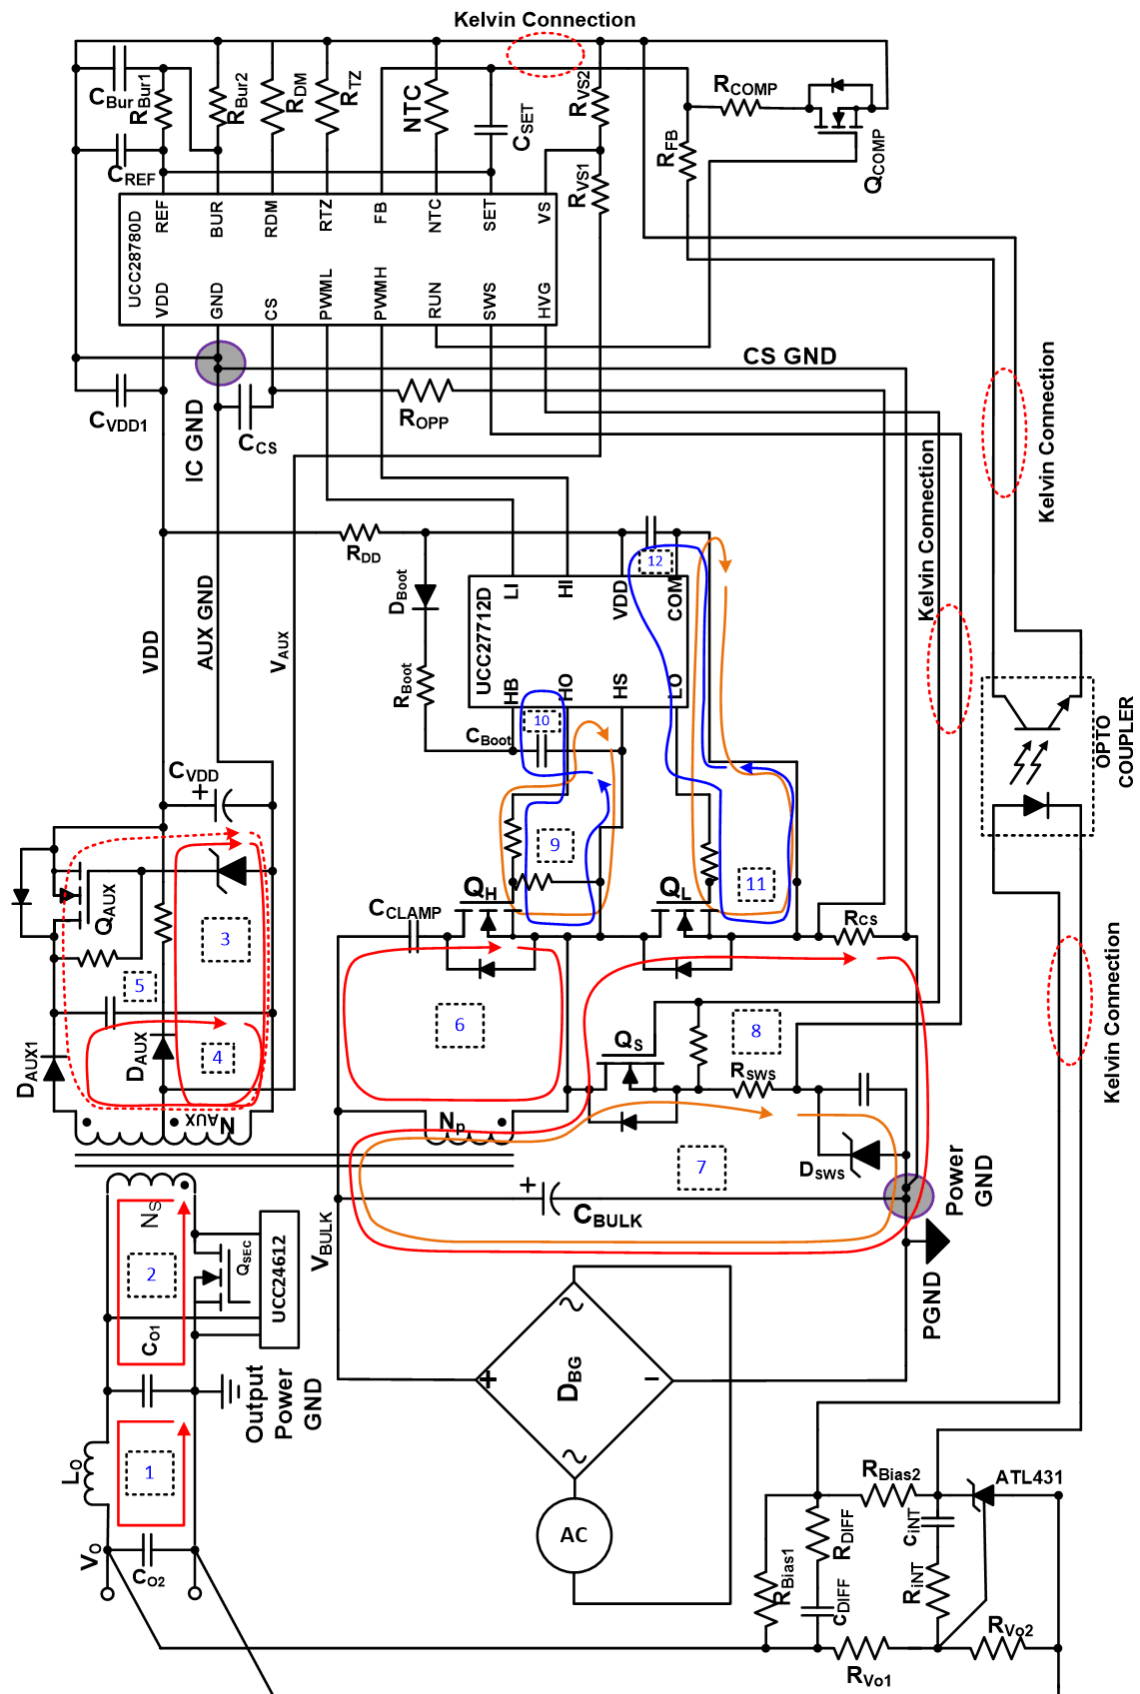

Figure 20. A Schematic of PCB Layout Guideline for the UCC28780 High-frequency ACF Converter
The importance of creating a good board layout with a low level of noise is often overlooked by designers, but the layout can significantly affect the performance of the system. In some cases, further filtering may be required to reduce the noise of the converter to an acceptable level. However, a noisy system can be very difficult to debug. Figure 20 demonstrates a schematic of a PCB layout guideline of the converter, which emphasizes the most critical points for layout considerations.
- All Kelvin connections, as illustrated in Figure 20, are required to help the weak signals be immune from noise interference.
- All the labeled grounds should properly be connected as in Figure 20, but an effort should be made to make sure that current from each loop does not cross and flow through other loops or grounds.
- All loop areas should be kept to a minimum. The critical loops are demonstrated in Figure 20.